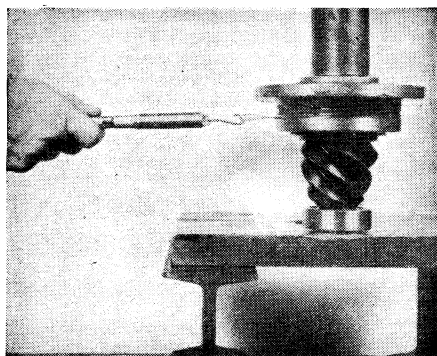

Fig. 105 Checking pinion shaft bearing preload
6. While in a press under 25,000 pounds pressure, check bearing preload torque. Wrap soft wire around cage, Fig. 105, and pull on a horizontal line with a pound scale. If a press is not available, the yoke may be installed and the pinion nut tightened to 300-400 foot pounds torque for checking. If rotating torque is not within 12-18 inch-pounds, use thinner spacer to increase or thicker spacer to decrease preload. As an example, assuming the pinion cage diameter to be 6", the radius would be 3" and with five pounds pull would equal 15 inch-pounds preload torque.